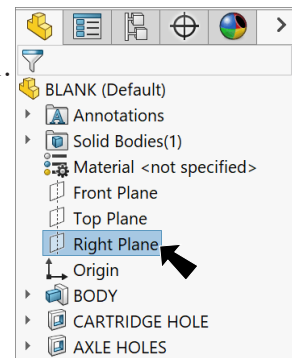

Fig. 21
Step 2. Click **Right Plane**  in the Feature Manager to select Plane, **Fig. 21**.